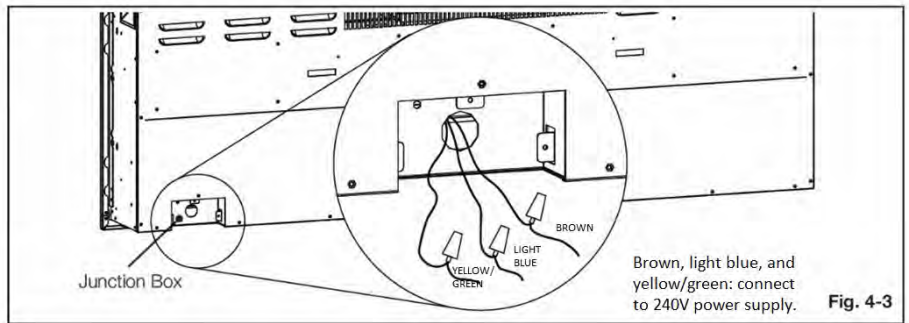

Fig. 4-3
- Remove all the wire nuts. Connect the green wire (**G**) to the supply ground wire, the white wire (**N**) to the supply Neutral wire, and the black wire (**L**) to the supply L1 wire. (Fig. 4-3).